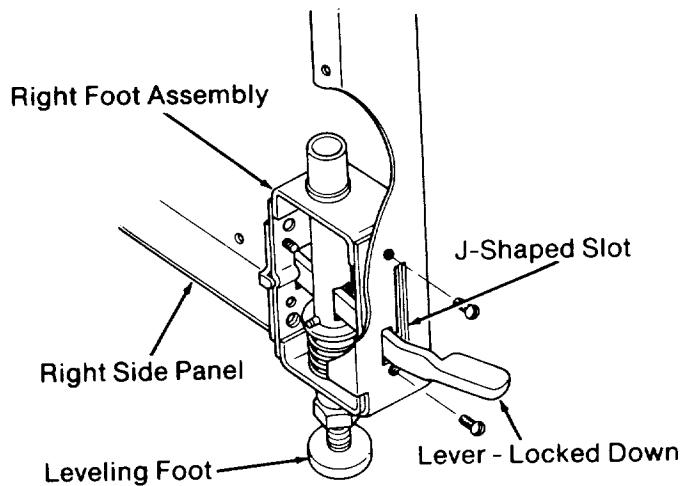

Fig. 29
3. Attach this *foot assembly* to the *right side panel* by sticking the *lever* through the J-shaped slot in the *side panel*, and screwing in the two slotted screws. (Figures 29 & 30)